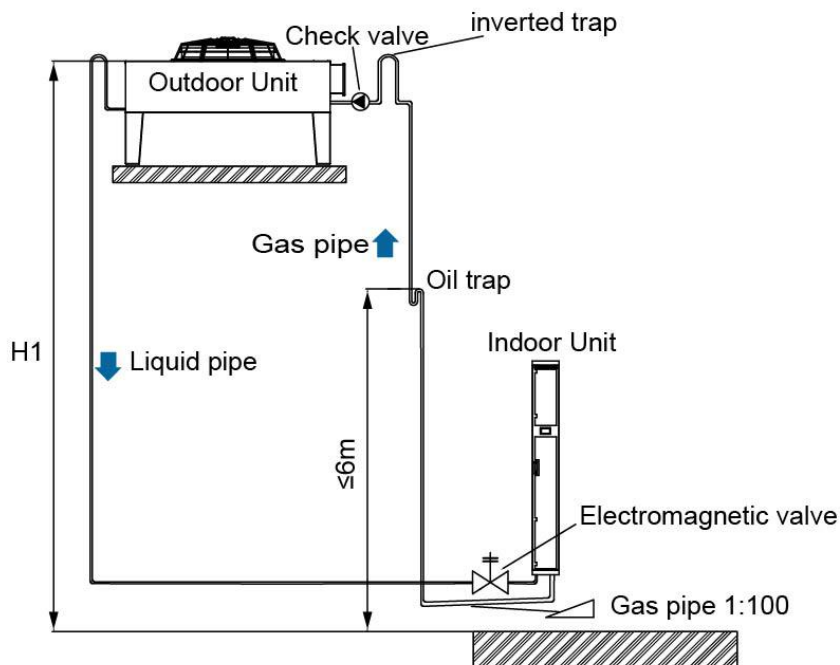

Fig. 2-18 Installation drawing (when the condenser is higher than the indoor unit)
3. For units with pump cabinets, V-coil units with external units, or units with long piping, the gas measuring pipe must be equipped with a one-way valve; if the air-conditioning equipment is dual-circuit power supply or long piping, the liquid side pipe The solenoid valve must be configured and installed. The one-way valve is installed near the air inlet of the condenser of the outdoor unit, and the solenoid valve is installed near the liquid pipe of the indoor unit of the equipment for easy wiring. The solenoid valve coil needs to be waterproofed. The installation position is shown in Figure 2-18.
6. The installation height of the bottom of the pump cabinet should be as low as possible or the same as the installation height of the external machine, and should not be higher than the installation height of the bottom of the condenser, to avoid the refrigerant in the liquid storage tank from flowing into the condenser. The schematic diagram is as follows (see Figure 2-18 for the complete installation diagram):